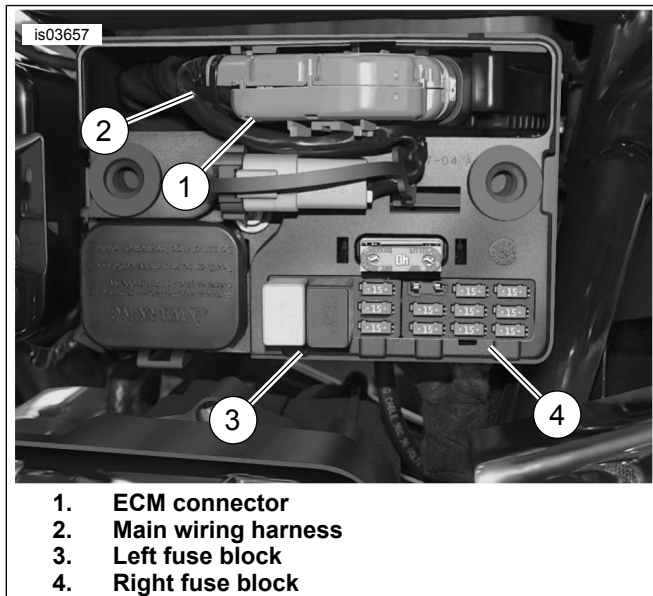
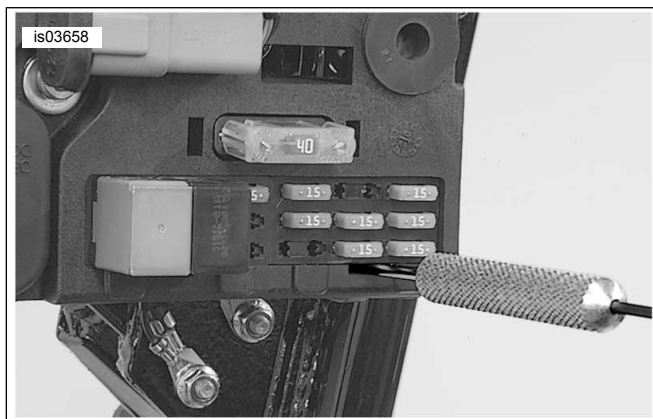

Figure 20. Electrical Caddy
Figure 21. Removing Fuse Blocks
3. See Figure 20. Disconnect electronic control module (ECM) connector (1) from ECM module.
- See Figure 21. Remove left and right fuse blocks (Figure 20, Item 3, 4) from electrical caddy.
4. See Figure 20. Install left and right fuse block (3, 4) in electrical caddy.
7. See Figure 20. Reconnect electronic control module (ECM) connector (1) to ECM module.